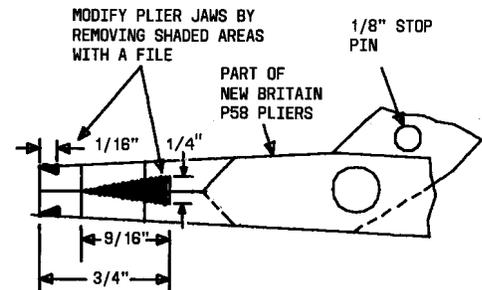

Fig. 4.1—Modification of New Britain P58 Pliers for Clip Removal
3.03.1 Modification of the New Britain P58 reverse action pliers, available from most automotive supply stores as a lock ring remover, is to be accomplished in accordance with Fig. 4.1. The 1/8-inch stop pin is to be installed in a hole drilled with an electric drill and located so as to limit jaw travel to approximately 1/2 inch for operator protection.
2.003 On Page 8, add new Fig. 4.1 as follows: